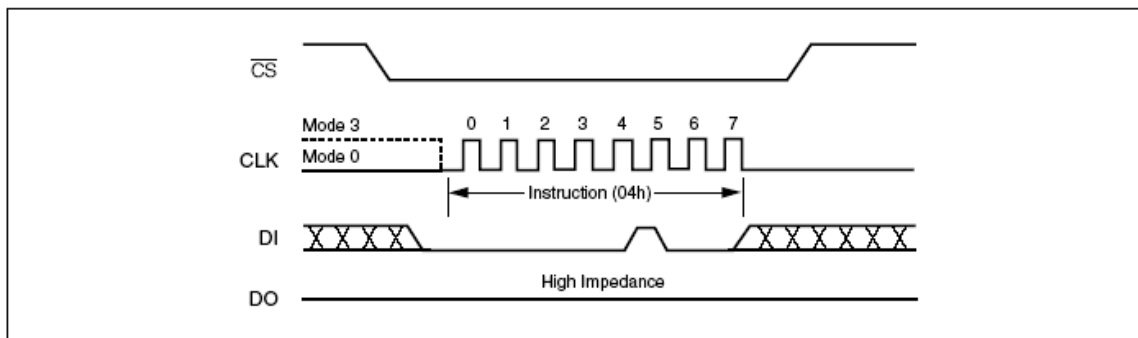

**Figure 5. Write Enable Instruction Sequence Diagram**
The Write Enable (WREN) instruction (Figure 5) sets the Write Enable Latch (WEL) bit. The Write Enable Latch (WEL) bit must be set prior to every Page Program (PP), Sector Erase (SE), Block Erase (BE), Chip Erase (CE) and Write Status Register (WRSR) instruction.